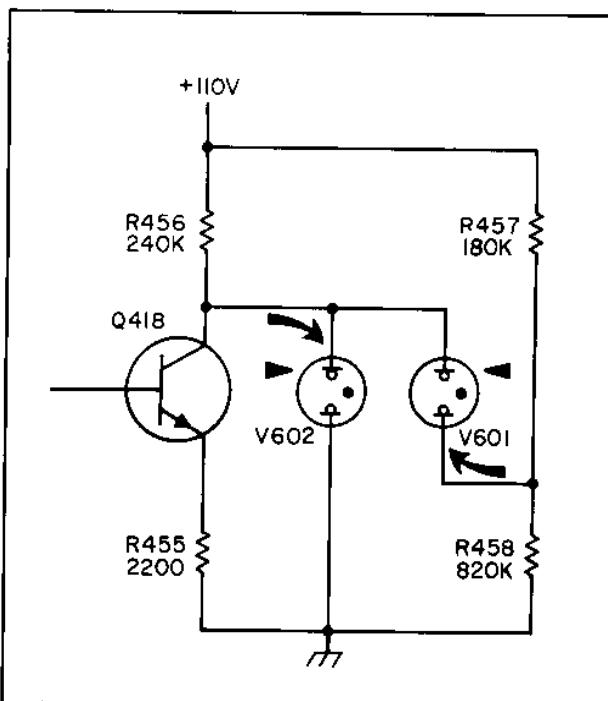

Figure 4-2. CRL Light Control
**4-63.** This circuit uses information from the phase detector circuit (Paragraph 4-56) to light the correct CRL direction lamp. Figure 4-2 is a simplified diagram of the light control circuit. The error dc level at Q416 base is added with the reference level at Q417 base by the differential amplifier to give a resulting dc level at driver Q418 base. When the CRL control is set too low for bridge balance, Q416 is turned on; this causes Q418 to be off with its collector voltage rising to near -110 volts, and right CRL light V602 is energized through R456. With the CRL control too high, Q416 is off, Q418 is on, and left CRL light V601 is energized through R457, Q418, and R455.